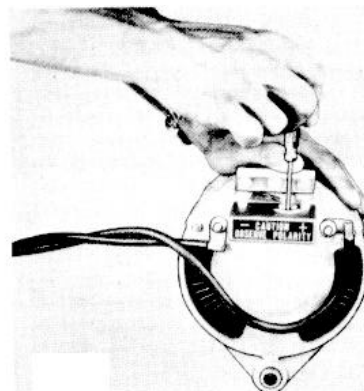

FIG. 1
4. Install protector caps (2) supplied to terminal screws (see Fig. 1).
To determine if the problem lies in the regulator or the alternator, connect an accurate volt-meter across the battery with the engine stopped and note the reading. The engine should now be started. If the voltmeter reading rises excessively, the charging system may be defective or may require adjustment. Remove the nylon screw from the regulator and with the engine at approximately 1000 RPM, attempt to bring the voltage to its proper value (13.5 to 13.7 approximately) by turning the adjusting screw with a small screwdriver. (See Figure 1.)
Prior to adjusting alternator voltage, the wiring and connections should be checked and repaired as needed. The batteries should be fully charged and the engine should be running at a fast idle. Turn off all vehicle loads such as lights, radios, heaters, air conditioners, etc., when checking or adjusting voltage. An accurate voltmeter should be connected across the batteries to determine the charging voltage. Do not rely on dash mounted vehicle instruments. These are excellent indicators but usually lack the extreme accuracy required for regulator adjustment. Remove the nylon screw from the regulator (see Figure 1) and with a small screwdriver carefully turn the adjusting screw clockwise to raise or counterclockwise to lower the voltage. The ideal voltage setting will be a value which maintains a fully charged battery without resulting in an excessive usage of battery water.